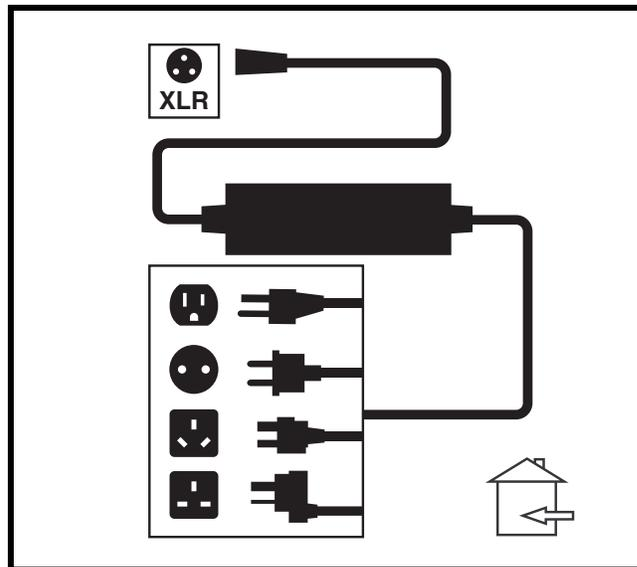

Figure 17. Battery Charging
3. Plug the off-board charger into the off-board charger/programming socket on the controller. See figure 17.